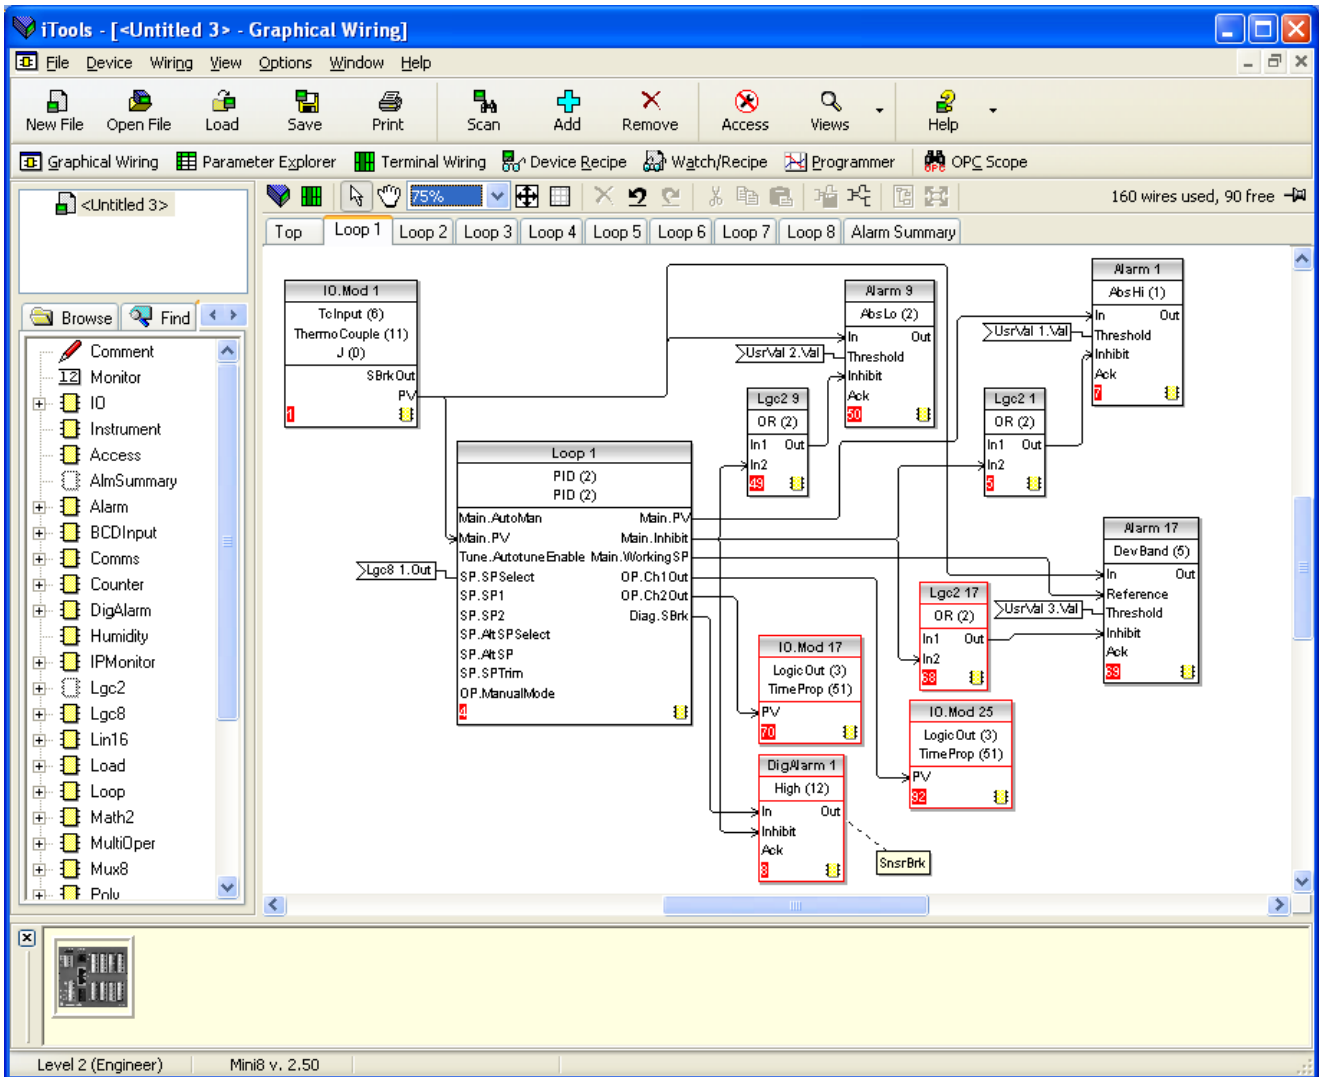

Figure 10-15: Mini8 Controller Graphical Wiring
2. Configure the mini8 controller using iTools. In the example below the all 8 loops in the mini8 controller slave have been setup for temperature control as shown for Loop 1 in the iTools Graphical Wiring (Figure 10-15).